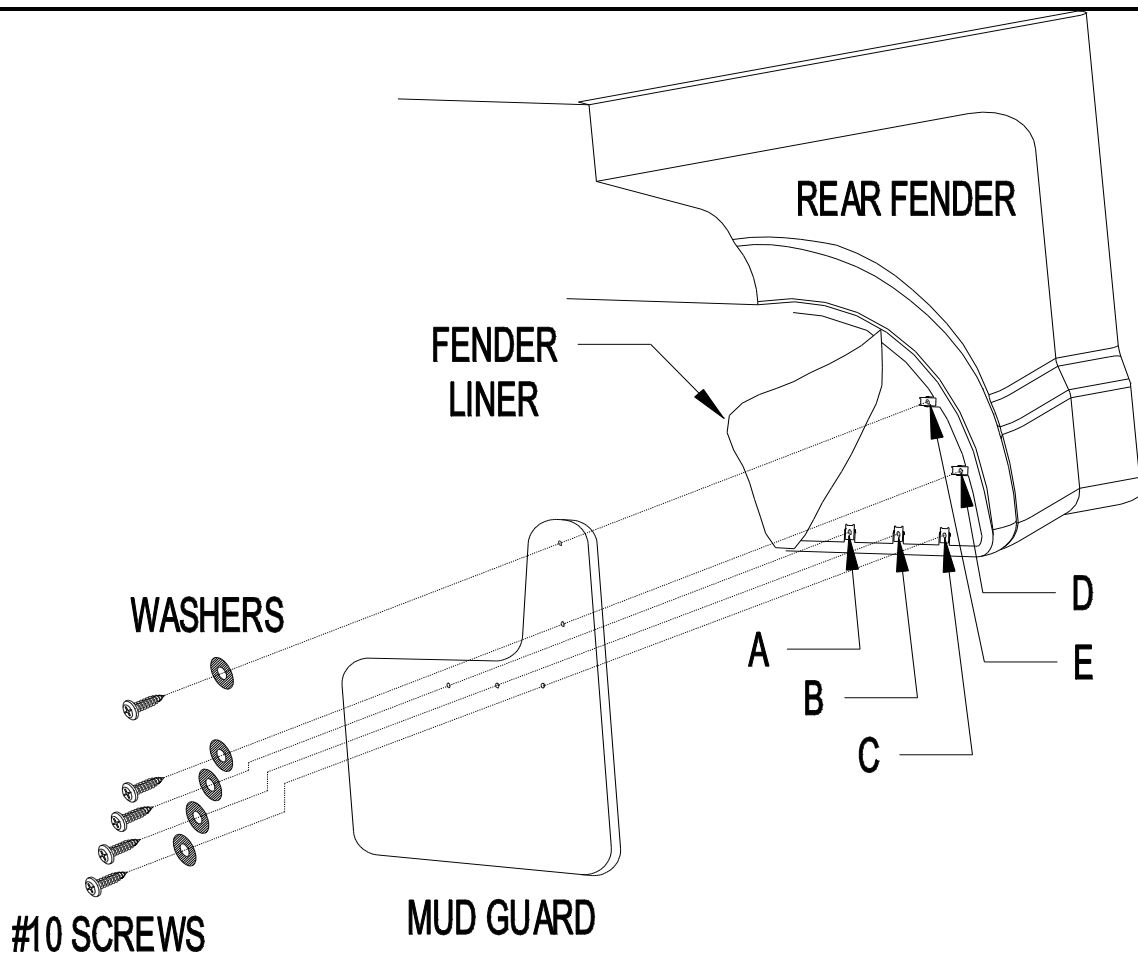

Figure 1
2. Remove existing plastic fasteners from locations A, C, D, and E by cutting off the heads of the fasteners and pushing the remaining piece through the fender tab hole (Figure 1).